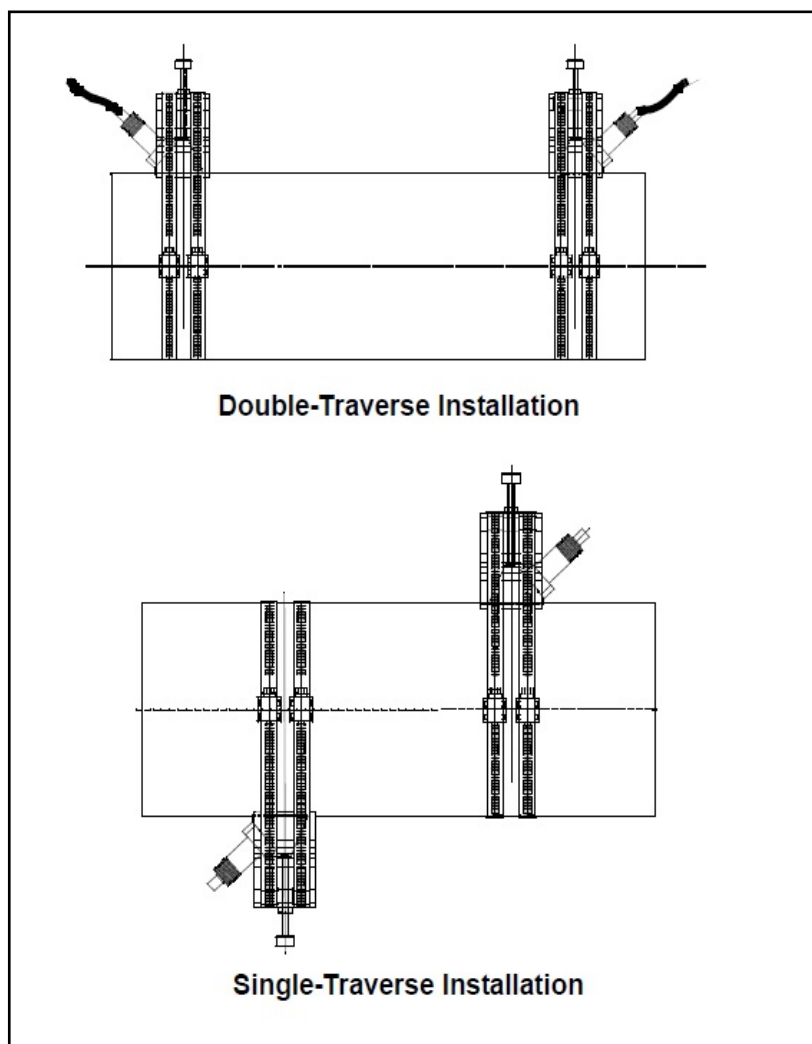

Figure 35: Completed GCF Installations with Transducers
5. Repeat Steps 1-4 to mount the other transducer in the remaining block. See *Figure 35* below for completed typical GCF installations.